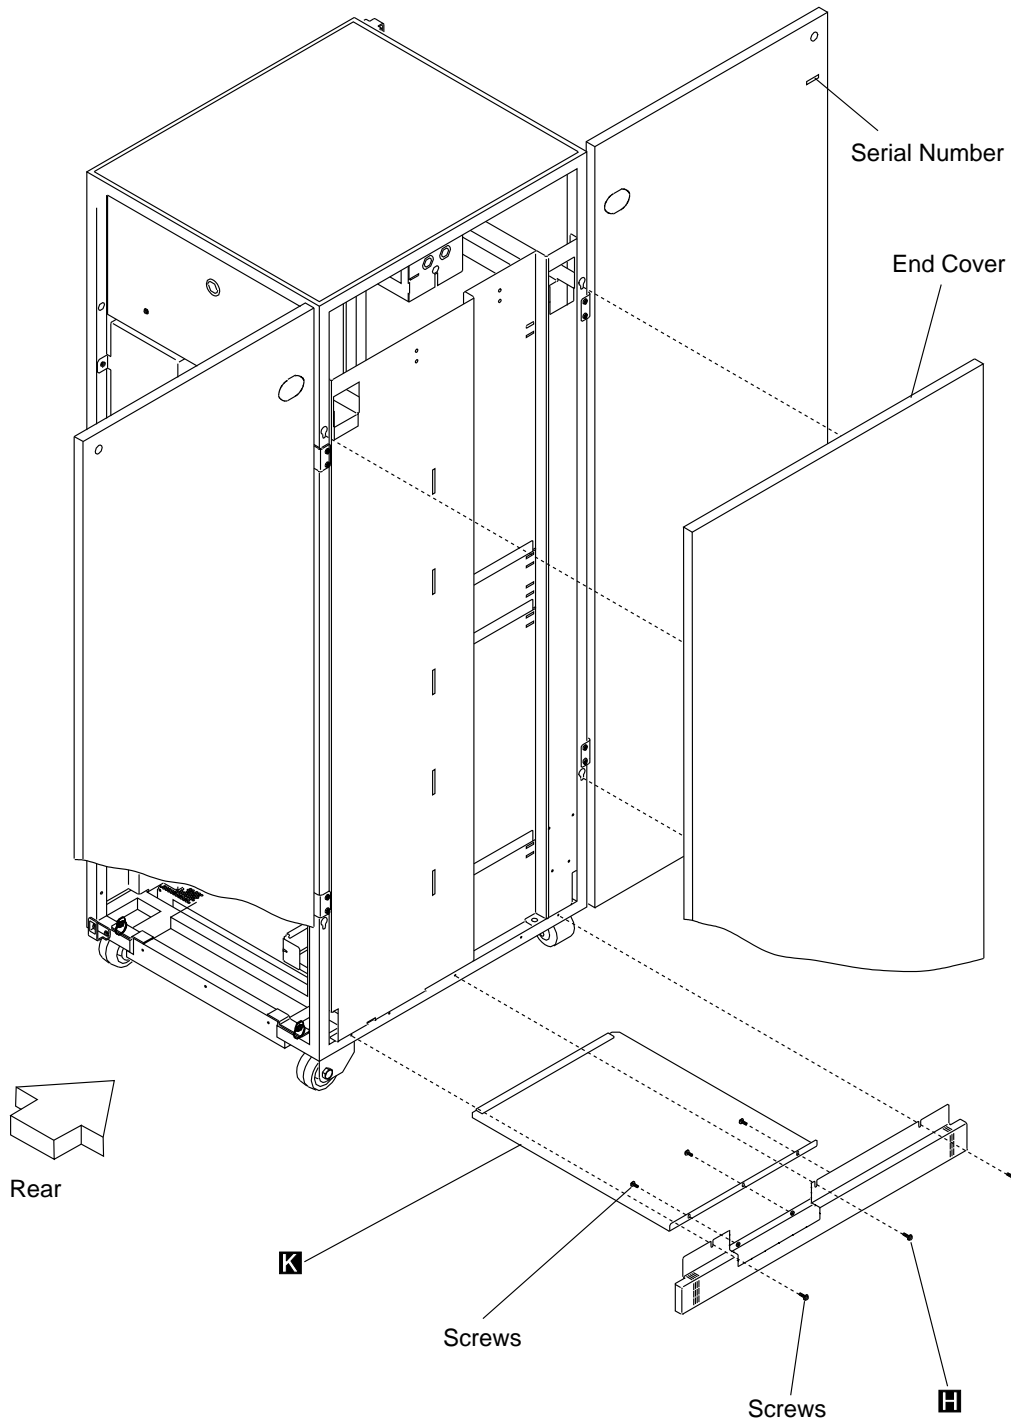

Figure 6-8. Ground Plate and Bracket on the Leftmost 3746-L (Rear View)
- c. \_\_\_\_ Refer to Figure 6-8 on page 6-10, and read the text at the top of the page.
- Panel **K** is used only for the end frame. See Figure 6-8 on page 6-10.
The following figure (Figure 6-8) shows details of the ground plate that must be fastened to the 3746-L13 when there is no 3746-L14, or to the 3746-L14 when there is no 3746-L15, or to the 3746-L15.